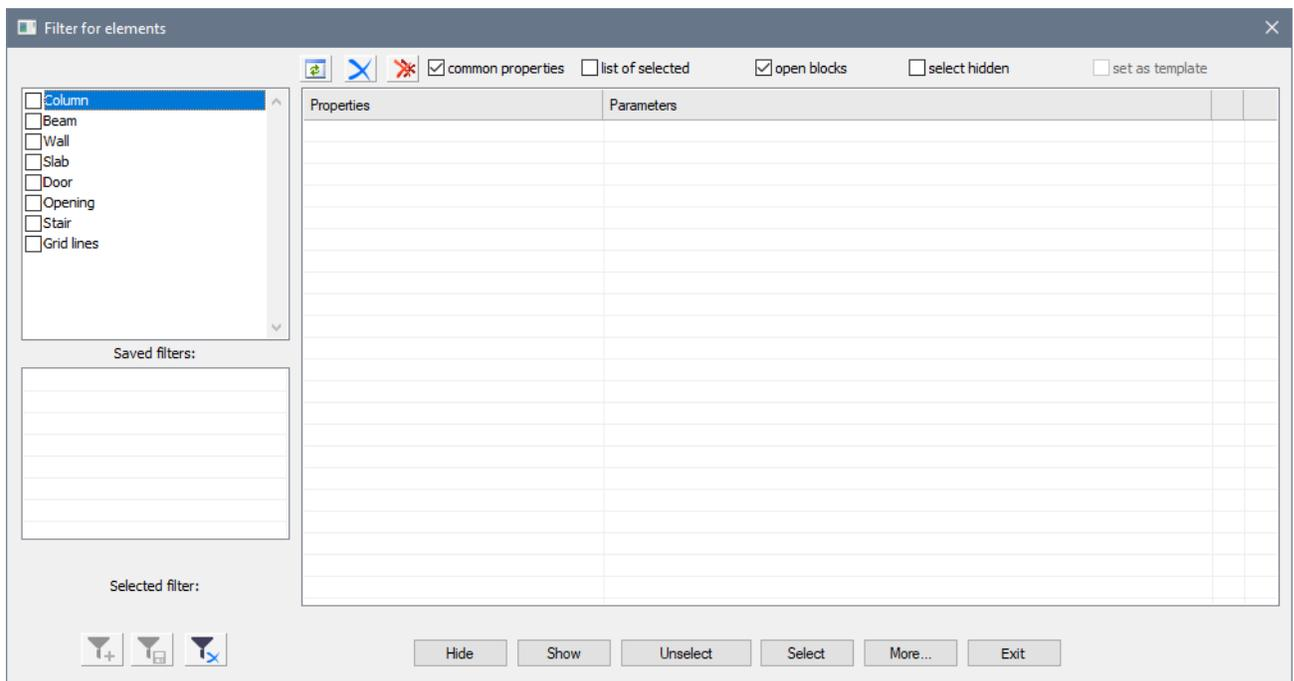

Figure 27.35. **Filter for elements** dialog box
- ⇒ In the **Filter for elements** dialog box (see Fig. 27.35), define the following data: